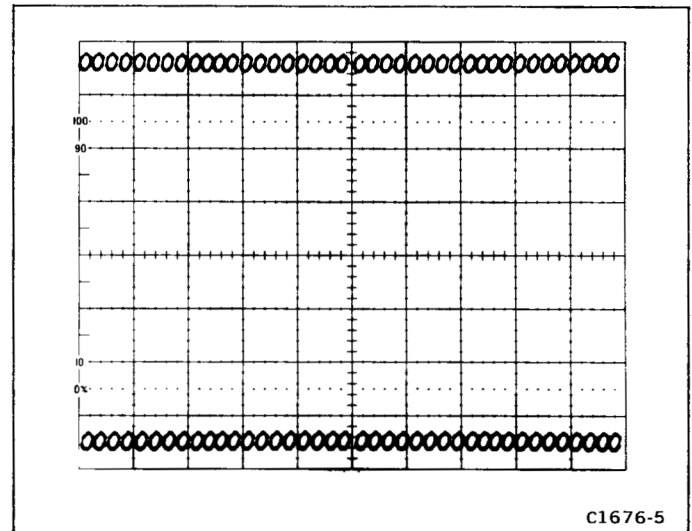

Figure 5-2. Readout display with Q2225 removed.
- d. **EXAMINE**—the crt display for two rows of zeros centered horizontally within the graticule area. See Figure 5-2.